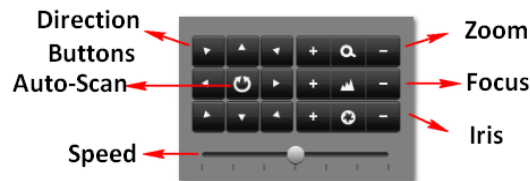

Figure 130 PTZ Controls Button
4. Using the Directional buttons and other PTZ control buttons (Zoom +/-, Focus +/-, Iris +/-, the speed of the PTZ movement), test the functionality of the PTZ camera. If PTZ camera and protocol supports it, you may also click the Auto-Scan button to test its function. PTZ controls buttons are shown in **Figure 130**.